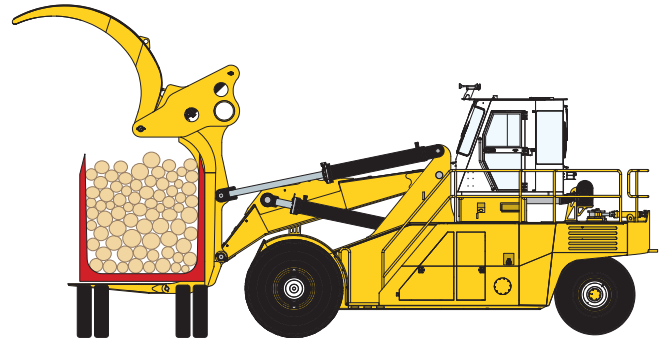

Figure 4-5-1 Moving Under the Load
1. Move the Lumberjack up to a truck or trailer with the carriage in the following position (See Figure 4-5-1):